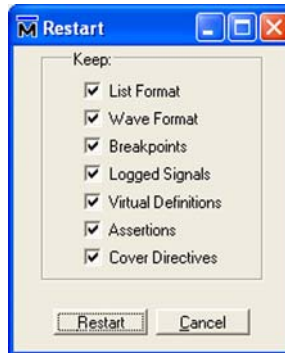

Figure 5-35. ModelSim Restart Dialog Box
8. In the ModelSim Transcript (Log) window, type **restart**. This will bring up the Restart dialog box (shown in Figure 5-35). Click the **Restart** button. This will reset the simulation to the beginning so that logging of the CoreMP7 signals occurs.